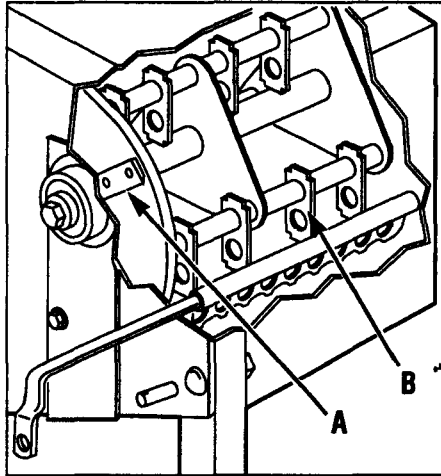

Figure 3-2: View inside chipper/shredder chamber shows chipper blade "A" and a shredder cutting blade "B".
The flywheel has a chipper blade (A, Figure 3-2) attached to one side. The cylinder assembly holds 12 shredder cutting blades (B). During operation, the chipper blade and shredder blades revolve at the same time, allowing you to either chip or shred.